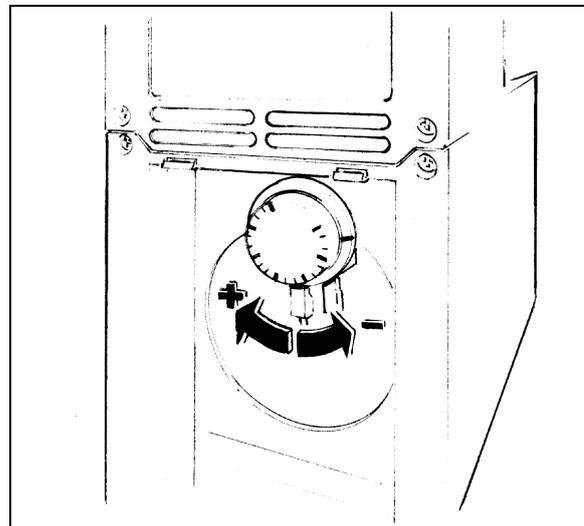

Fig. 9
- Switch on the unit main switch A (fig.9 and 10).
- Set the thermostat on the desired temperature (fig.9), turning the metal ring clockwise you increase the warming temperature (the maximum temperature you can reach is 80°C) turning it counter clockwise you decrease the temperature.